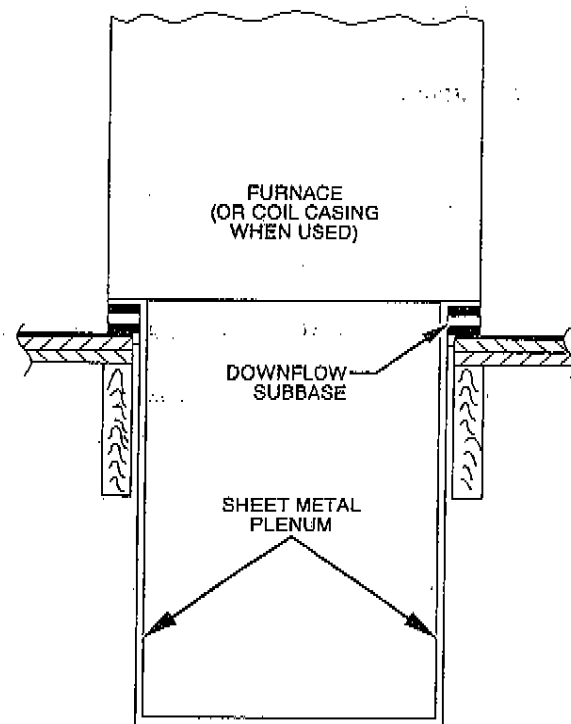

Fig. 6—Furnace, Plenum, and Subbase Installed on a Combustible Floor
- When completed, downflow subbase, plenum, and furnace (or coil casing when used) should be installed as shown in Fig. 6.